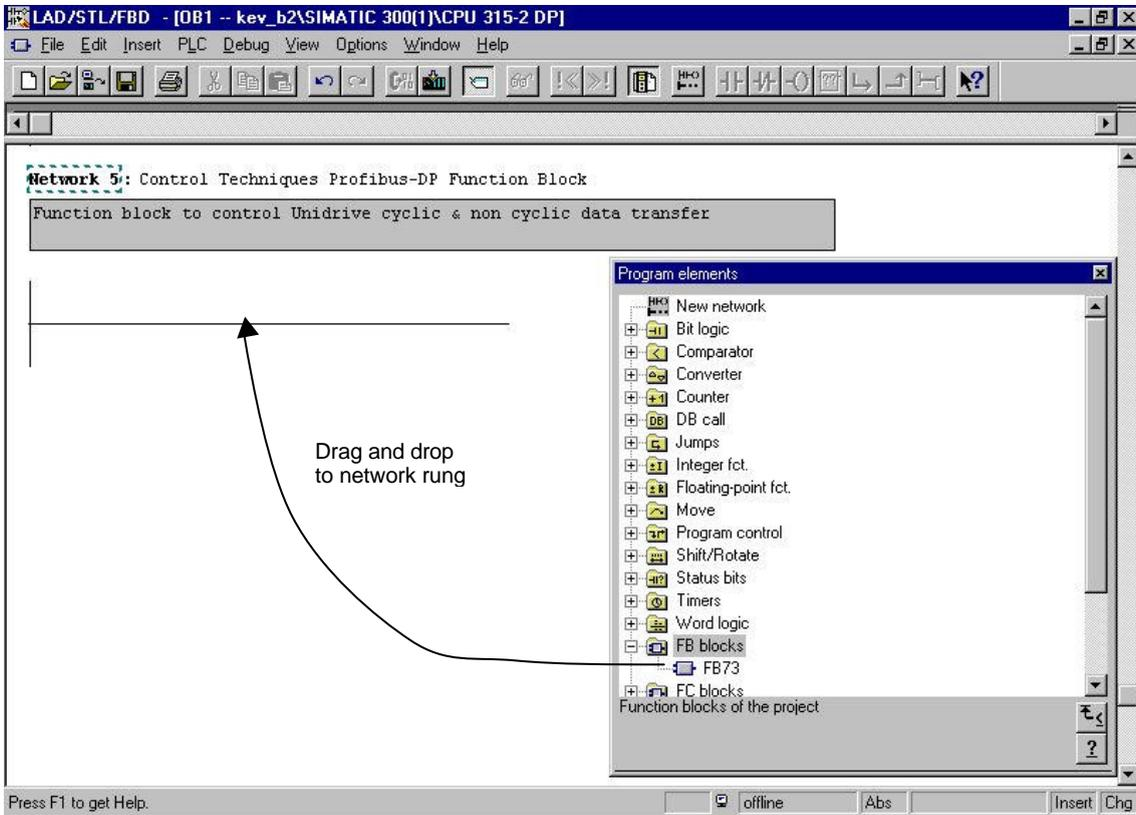

Fig 3 Inserting the FB73
3. Expand the function block icon, then drag and drop the **FB73** block to the new network / ladder rung. See figure 3.